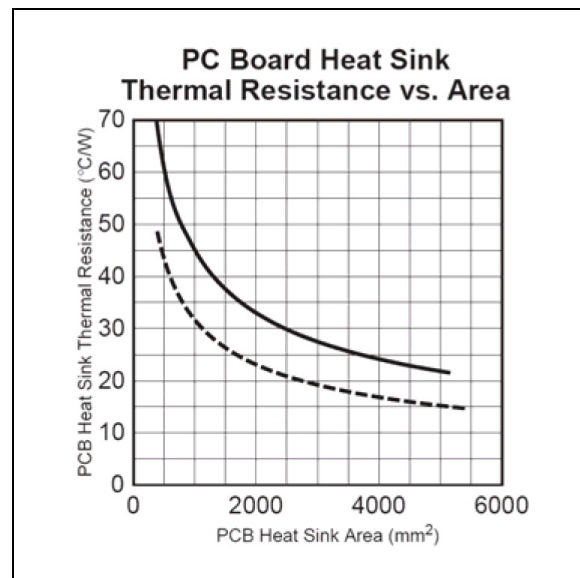

FIGURE 5-3: *Electrical Circuit.*
- $R_{\theta CA} = 53^{\circ}C/W$, read from Figure 5-3.